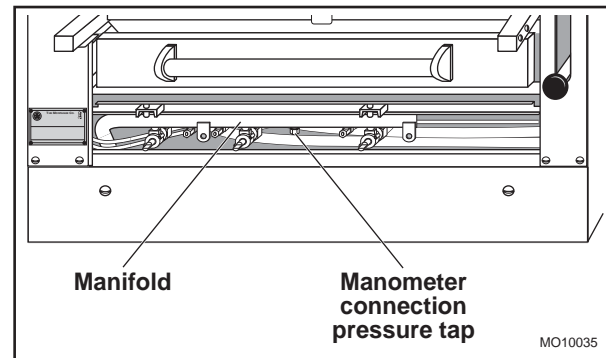

Figure 6. Gas Pressure Tap
6. Connect a manometer to the pressure tap provided on the broiler unit gas piping manifold, Figure 6. Turn all gas taps to the full on "O" position.